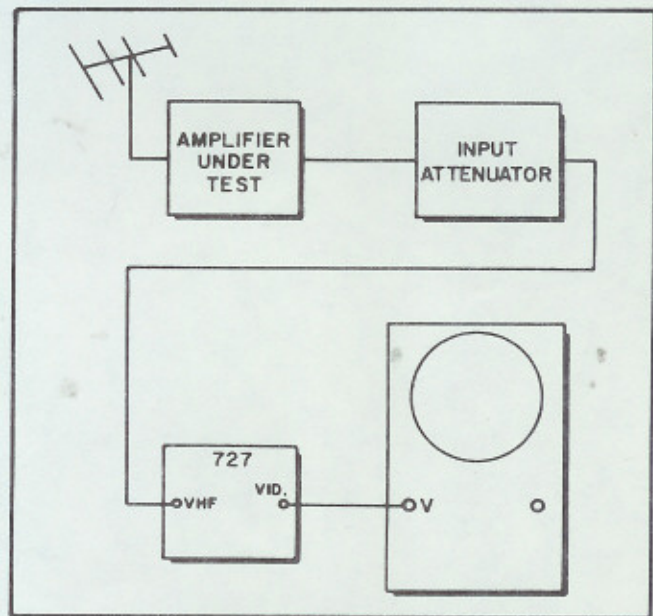

Fig. 3-7. Setup for Measuring Sync Clipping
1. Connect the equipment as diagrammed in Fig. 3-7.